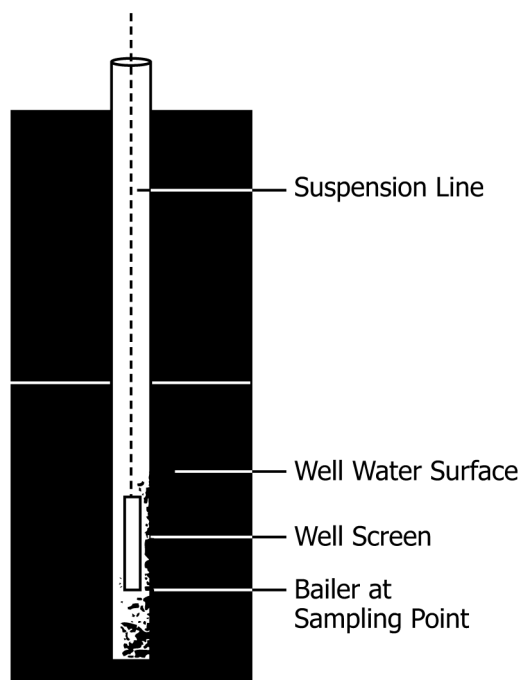

FIG. 1 Bailer Sampling a Screened Well
4.1 A clean bailer is lowered into the liquid to be sampled using a suspension line (see Fig. 1). The bailer chamber is allowed to fill with the sample. The check valve or valves on bailers close when the bailer stops. The bailer is raised to the surface where the sample is discharged into a clean sample container.
5.1 A bailer is a device for obtaining a sample from stratified or un-stratified waters and liquid wastes. The most common use of a bailer is for sampling ground water from single-screened wells (Fig. 1) and well clusters (see Guide D4448).